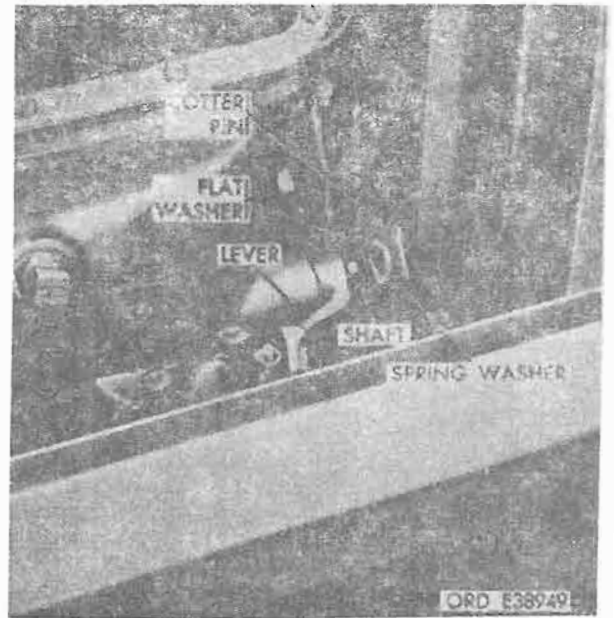

Figure 4-20. Transfer shift lever and shaft.
(12) Remove cotter pin and flat washer and spring washer (fig. 4-20). Remove transfer shift lever from shaft.